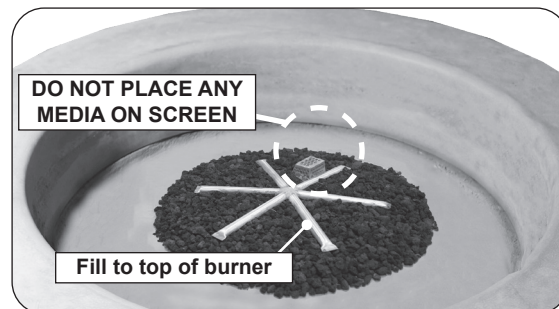
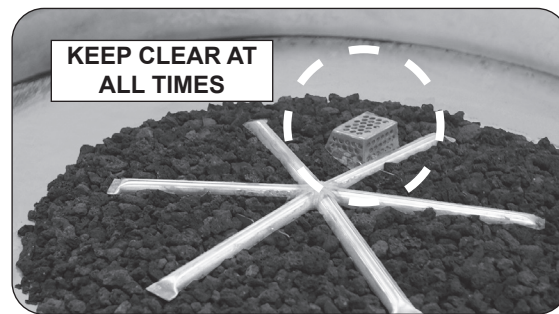

Fig. 35-1 Place lava granules
Fig. 35-2 Screen detail
1. Pour the 10 lb bag of lava granules into the burner area (with the exception of the screen). Spread the granules within the burner area as shown in Fig. 35-1 and Fig. 35-2. **Only fill the granules up to the top of the burner tube.**